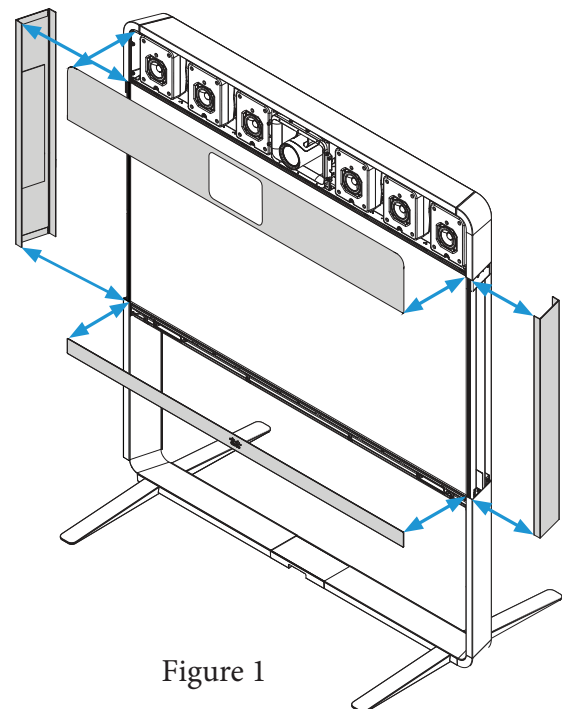

Figure 1
- Remove MX device frames (please refer to the MX product manual) (Figure 1)